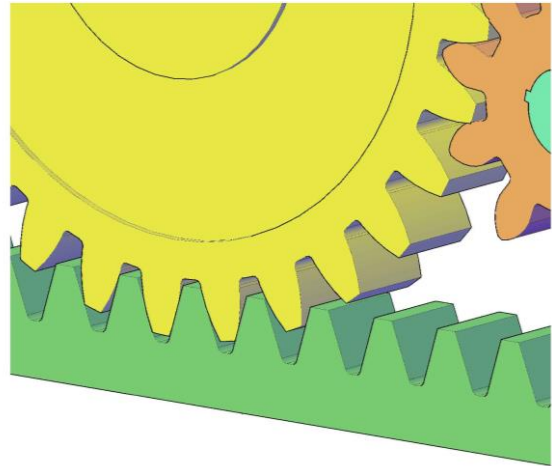

Figure 6a
- From the data given derive the dimensions of the module and the necessary dimensions to draw the rack. (2)
- The rack is operated by a pinion and a small motor-driven gear (shown in Figure 6a), the gear train giving a speed reduction of 3:1. The pitch circle diameter of the small motor-driven gear is 120 mm. Calculate the pitch circle diameter of the pinion gear and derive the other necessary data. (2)
- Construct, full size, the true involute of **ONE** flank face of the pinion. (4)
- Draw **THREE** teeth of the pinion gear using a standard geometric approximate construction for the flank faces. (7)
- Draw **THREE** teeth of the rack in mesh with the gear. (5)